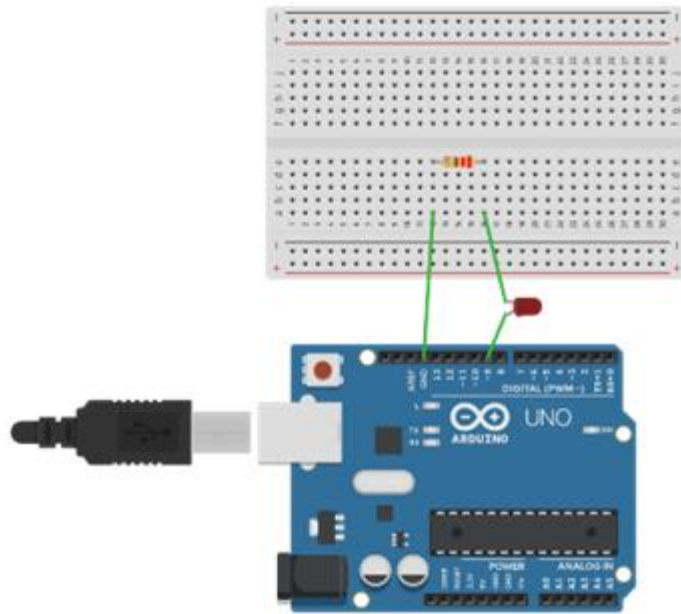

Fig.1: Circuit Connection Diagram
- Use the USB cable to connect Arduino Uno to the computer (Fig.1).